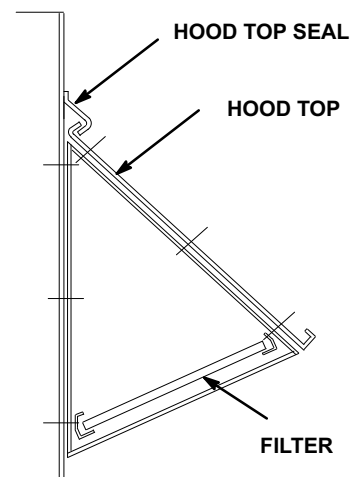

FIGURE 37
LAOAD(M)30/36 consists of a set of dampers which may be manually or motor (M) operated to allow up to 25 percent outside air into the system at all times (see figure 37). Either air damper can be installed in LGA/LGC/LCA/LCC units. Washable filter supplied with the outdoor air dampers can be cleaned with water and a mild detergent. It should be sprayed with Filter Handicoater when dry prior to reinstallation. Filter Handicoater is R.P. Products coating no. 418 and is available as Lennox Part No. P-8-5069.